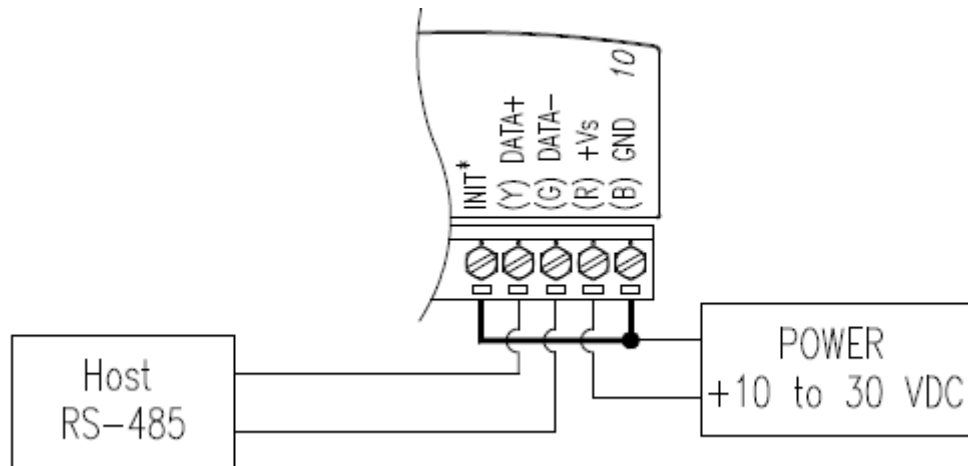
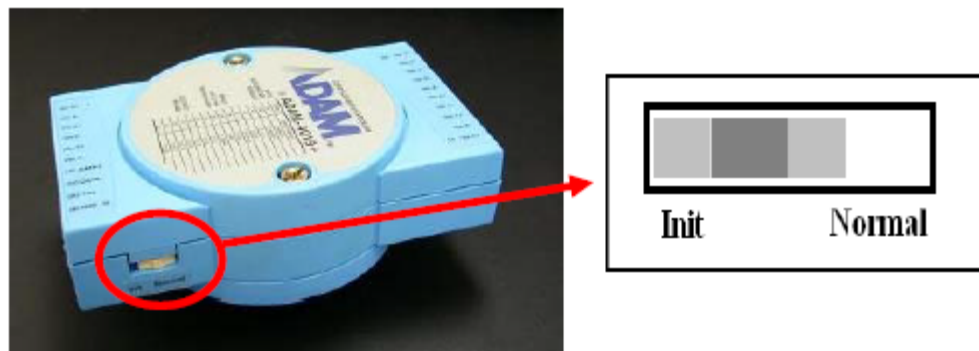

Figure 2.3 Grounding the INIT* Terminal
Figure 2.4 Set INIT switch to “Init”
Since there is no visual indication of a module's configuration status, it is impossible to know the baud rate, address and other settings just by looking at it. It might not be possible to establish communications with a module whose baud rate and address are unknown. To overcome this problem, most modules have an input terminal labeled INIT*. Booting the module while connecting the INIT* terminal with the module's GND terminal forces the configuration into a known state called the INIT* state. Besides, some newer modules have INIT switch which you can set "Init" or "Normal" (See Figure 2.4). If you set the switch to "Init", then it becomes INIT* state.
- • Power the ADAM module on while shorting the INIT* and GND terminals (See Figure 2.3) or set the INIT switch to “Init” (See Figure 2-4)